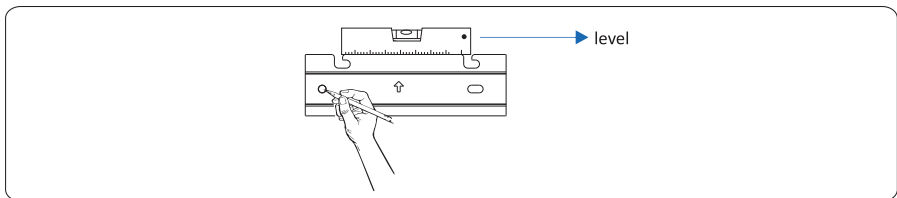

Figure 4.11 Mark the hole positions using a marker
**Step 3** Level the hole positions using a level gauge, and mark the hole positions using a marker (as shown in Figure 4.11).